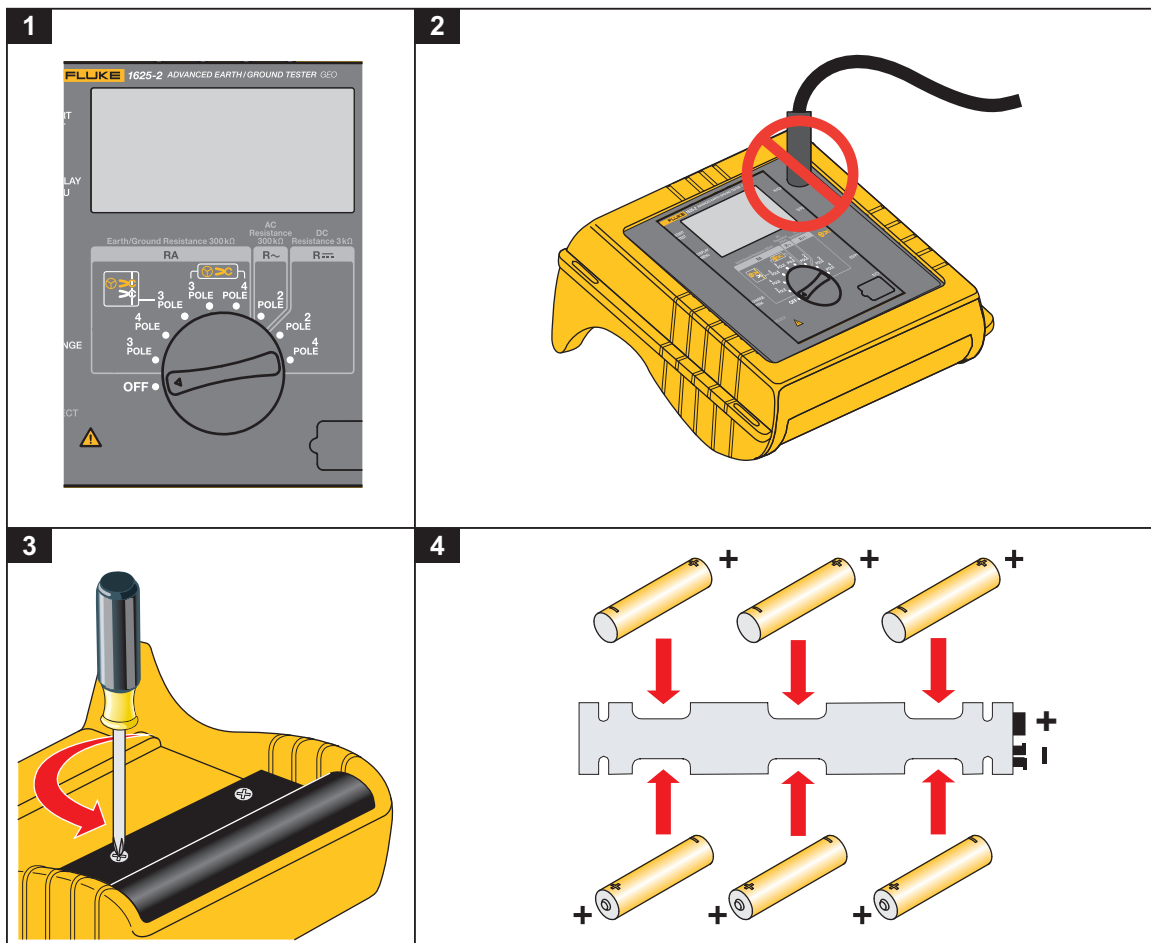

Figure 2. Battery Insertion
1. Switch off instrument, see Figure 2.